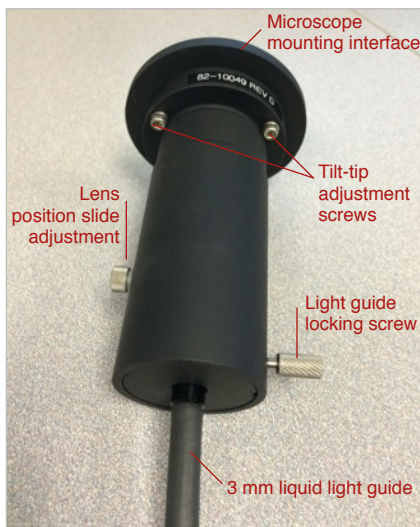

Figure 1
Lumencor's Zeiss (PN 82-10049) collimator is designed for optimized connection of a Lumencor light engine to a Zeiss microscope illumination input port via a 3 mm liquid light guide (LLG). The collimator has been designed to provide control over the size of the illuminated area at the sample plane. This design allows the user to maximize the illumination intensity and uniformity for the field of view (FOV) of the eyepiece or camera sensor by adjusting the relative positions of two achromatic lenses within the collimator [Note 1]. The lens position slide adjustment (Figure 1) determines the distance between the two lenses. The light guide locking screw sets the distance between the LLG terminus and the first lens. The two adjustments must be made in tandem. Below are instructions for achieving the smallest and largest uniformly illuminated areas within the FOV. The goal of the procedure is to focus the image of the LLG on the back aperture of the microscope objective. This image can be obtained using a Bertrand lens. If your microscope does not have a Bertrand lens, remove the eyepiece to obtain an image of the back aperture of the the objective [Note 2].
2. Attach the collimator to the light input port of the microscope via the mounting interface (Figure 1).
3. Insert the liquid light guide as far as it will go into the collimator receptacle, as shown in (Figure 1). Secure the light guide by tightening the light guide locking screw.
4. Move the lens position slide adjustment (Figure 1) as far away from the microscope body as permitted by its range of travel.
6. Move the lens position slide adjustment (Figure 1) as far towards the microscope body as permitted by its range of travel.
8. The collimator can be directed to center the illumination in the FOV and thereby align the collimator output axially with microscope's optical train. Three 2.5 mm hexagonal screws on the front face of the collimator (Figure 1) should be loosened individually in 1/2 turn increments which will tip and tilt the collimator.